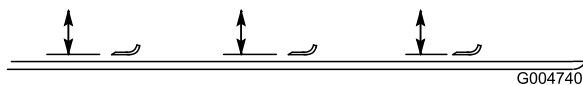

Figure 85
2. Rotate the blade until the ends face forward and backward and measure from the inside of the mower deck to the cutting edge at the front of the blade (Figure 85).